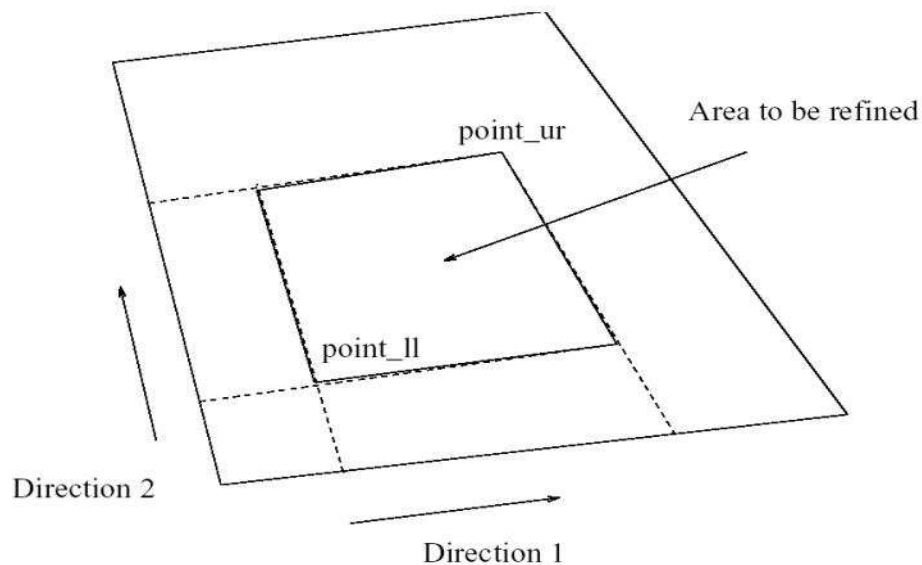

Figure 2.10: Schematics for the region to be manually refined.
- **range1** is the relative range in direction 1 (similar to direction x) of the window within which the double mesh will occur. The reference point (or origin of the polygon) is the first point in the **polygon** statement (see Fig. 2.10).
- **range2** is the relative range in direction 2 (similar to direction x) of the window within which the double mesh will occur. The reference point (or origin of the polygon) is the first point in the **polygon** statement (see Fig. 2.10).